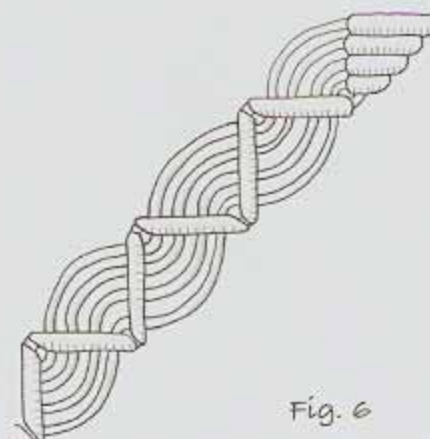

Fig. 6
27. Repeat Steps 24 - 26 approx. 15 more times for a total of 16 "stairsteps". You may want fewer if you prefer a shorter necklace or more if you prefer a longer one. If you decide to add more steps make sure you leave at least 10" of cord to complete the necklace (see Figure 6).